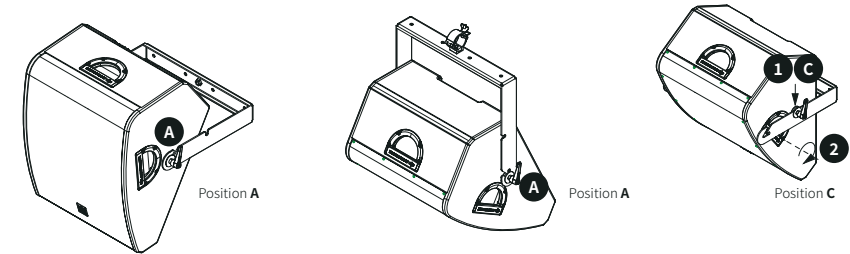

Figure 7. Different aiming angles for wall- and truss-mount installation.
10. If you want to be very close to the wall and have SMX 12 pointing downwards, you can use the notch position **C** on the U-bracket. See figure 7.